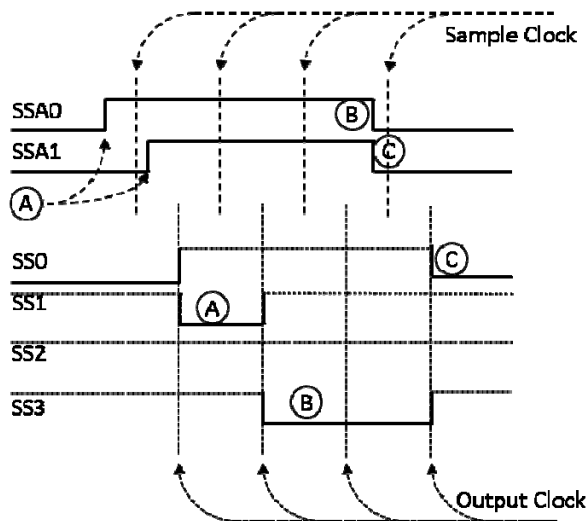

Figure 12. Mux Select Timing
Figure 12 illustrates the behavior of SSA0 and SSA1 channels. This diagram assumes that MSS is low and that SS0, SS1, SS2, and SS3 are pulled up.
- Point C: This point in Figure 12 shows a clean transfer between SS3 being active and SS0 being active. The mux was designed to eliminate any short duration metastable states between any two selected outputs.